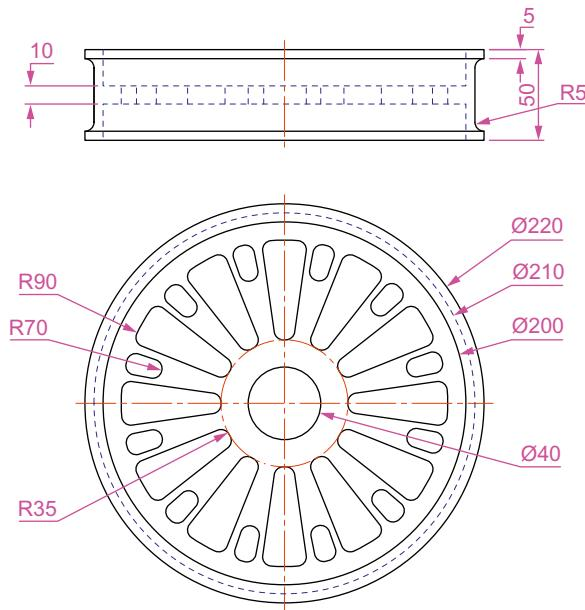

Fig. 18.11 Seventh example – **Color faces tool** – details of the 3D model
1. Construct a 3D model of the wheel to the sizes as shown in Fig. 18.11.